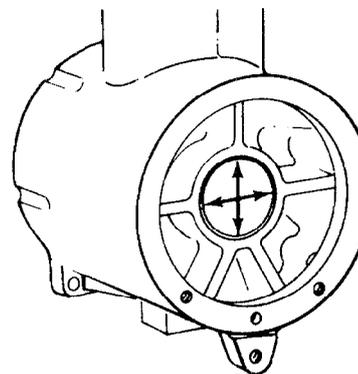

Figure 248 — Measuring Crankshaft Bush
- z. Measure the crankshaft bush in the crankcase (see Fig. 248) and replace the bush if the measurement exceeds 47.70 mm (1.8780 in.).